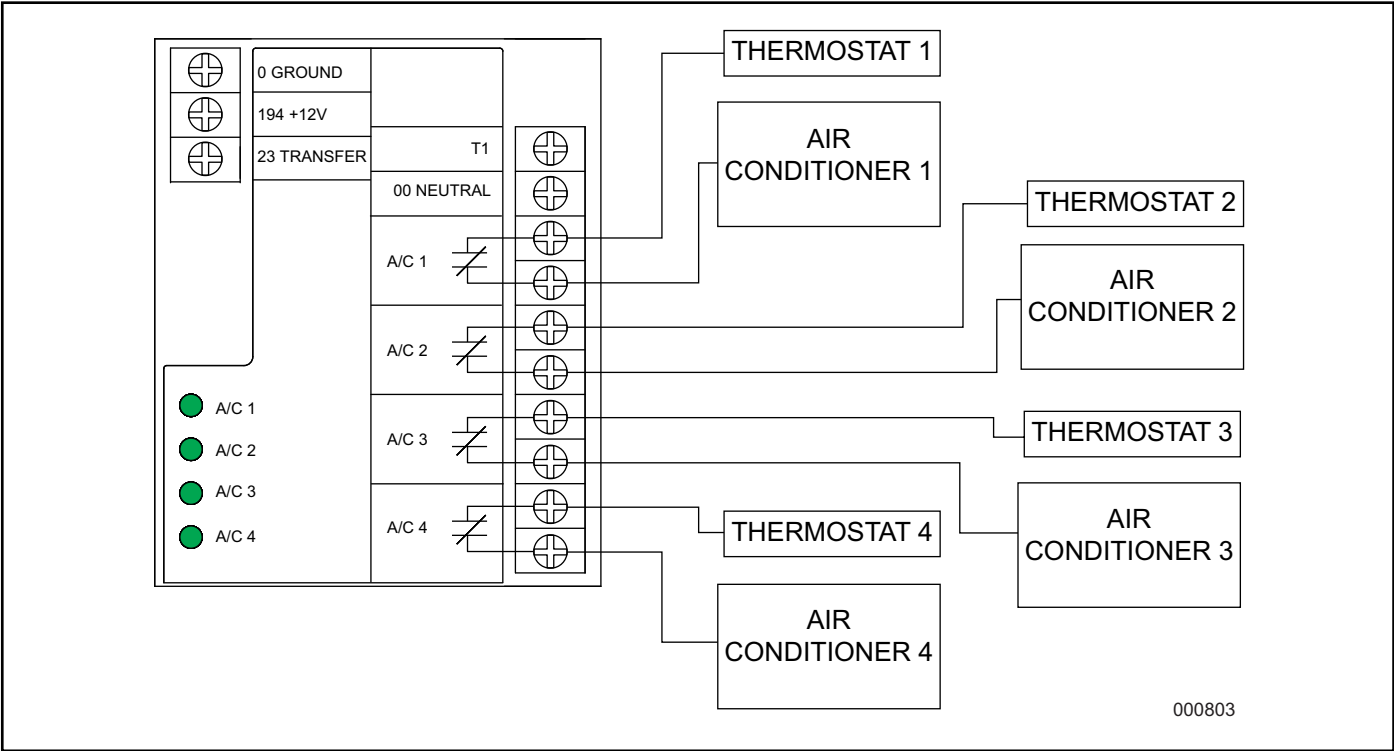

Figure 3-1. Typical SACM Connections
1. See Figure 3-1. Connect utility (normal) power source cables to utility service disconnect circuit breaker if equipped, or N1 and N2 lugs of the transfer switch.
See Figure 3-1. Control system interconnections consist of N1, N2, and T1, and leads 23 and 194. The generator control wiring is a Class 1 signaling circuit. Reference instruction manual of specific engine generator for wiring connection details. Screw heads are straight bladed and cross-bladed, and should be tightened to 3.5 in-lb (0.4 Nm).
See Figure 3-1. The SACM can control an air conditioner (24 VAC) directly.
2. Connect the wire to the terminal strip terminals (A/C 1) on the SACM as shown in Figure 3-1. These are normally closed contacts which open upon load shed conditions. Route thermostat wire away from high voltage wires.